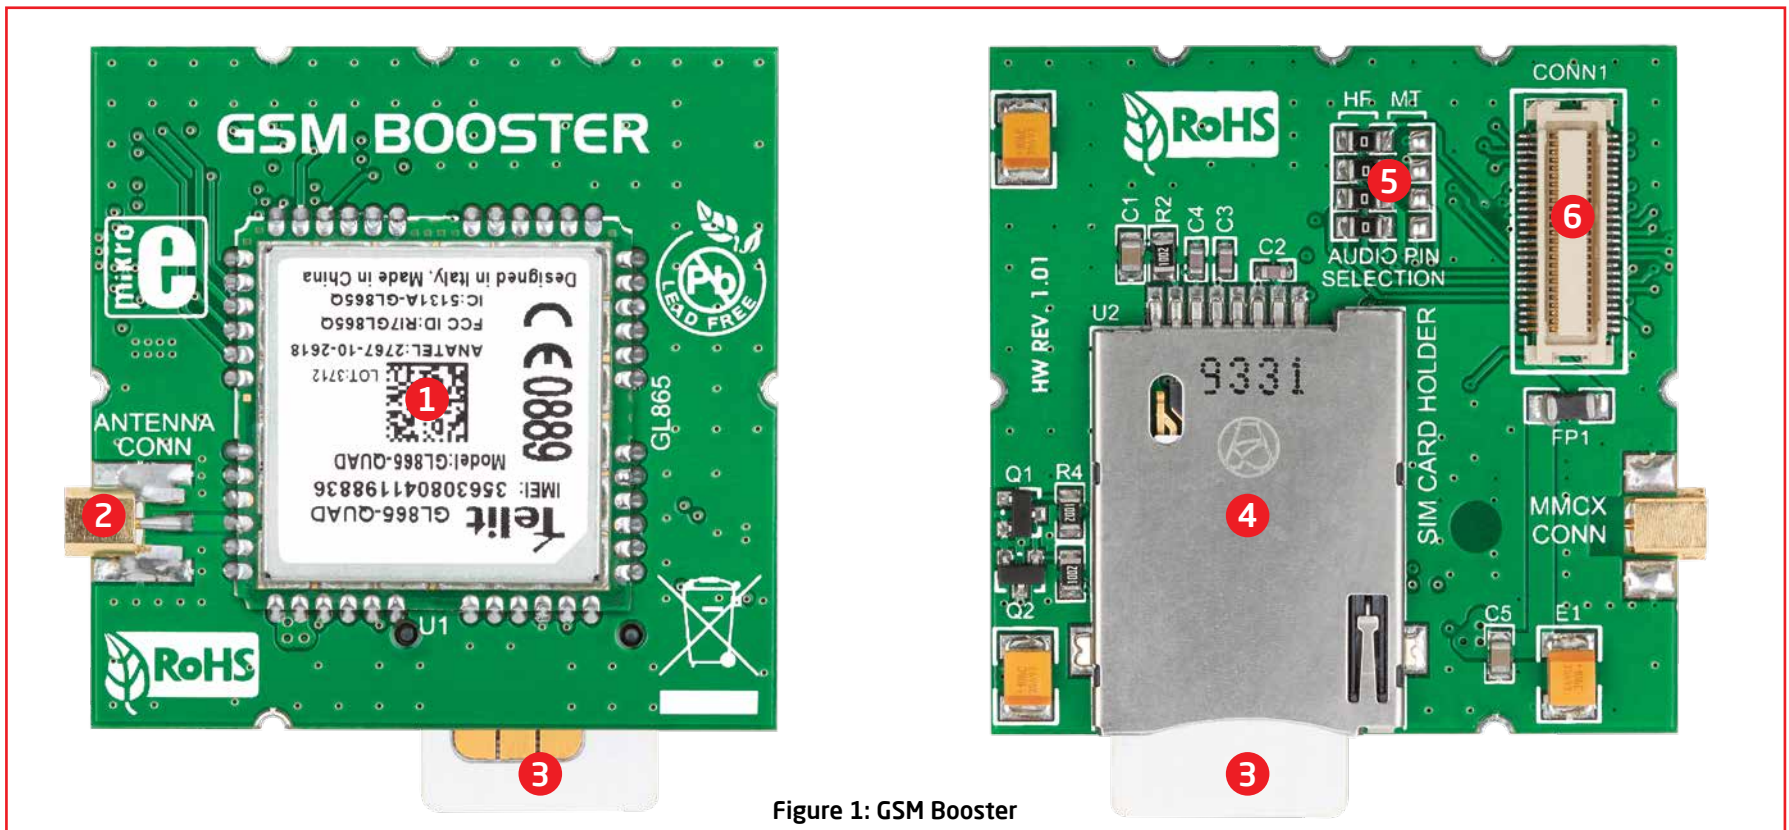

Figure 1: GSM Booster
The **GSM Booster** board is a replacement for Telit GM862-QUAD module and can be used on already supported development systems such as SmartGM862, PICPLC16 v6 PLC system, PICPLC4 v6 PLC system, EasyGSM/GPRS GM862 or AVRPLC16 v6 PLC system. It contains Telit **GL865-QUAD** GSM module, MMCX GSM antenna connector, SIM card holder and CSTP 50 pin vertical SMD molex connector (male) for further connection. Before you insert SIM card into SIM card holder make sure that it is properly oriented, **Figure 1** (opposite to GM862-QUAD). Then push the card slowly until you hear the “click” sound. If you want to remove the card, push it until you hear the “click” sound and then pull it out. Improper use may damage your card. There are four zero-ohm SMD jumpers used to select whether Handsfree (HF) or Handset (MT) audio pins are used. Jumpers are soldered in the HF position by default. SIM card and GSM antenna are not included in the package.
- 5 Audio pin selection between Handsfree (HF) and Handset (MT)